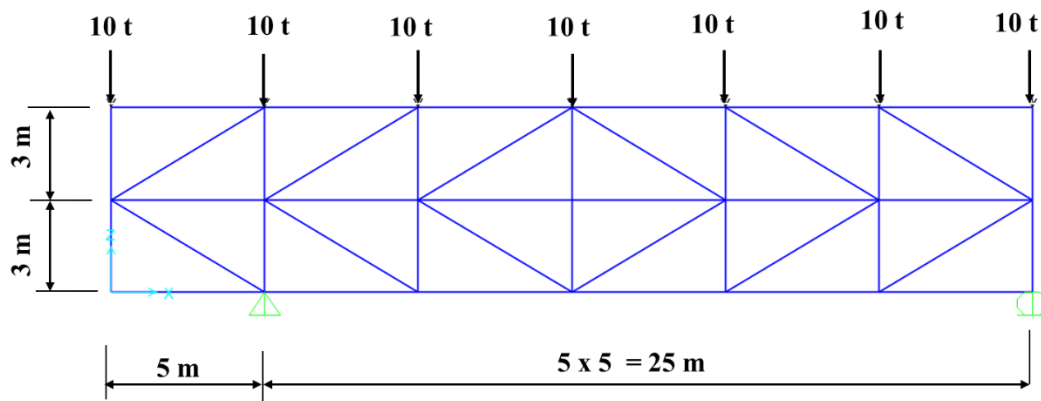

Figure 2. Steel Truss Project
2. Briefly describe how to use SAP 2000 to analyze and the check design of cross-sections of the following steel truss shown in Figure 2. All members are a double angle back-to-back (70 x 7), use steel 52: $F_y = 3600 \text{ kg/cm}^2$, $F_u = 5200 \text{ kg/cm}^2$. (8 marks)